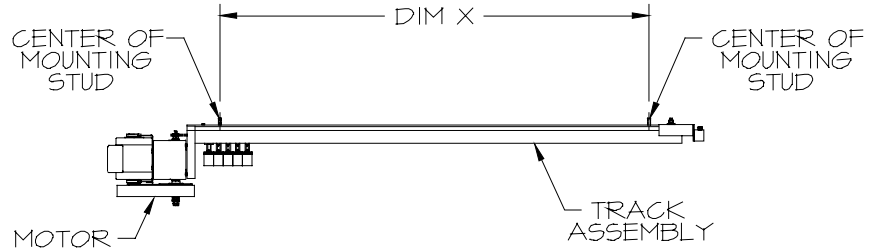

FIG. 7
- **Measure Track Assembly** from center of Mounting Stud to center of Mounting Stud. This is Dimension X (Figure 7).